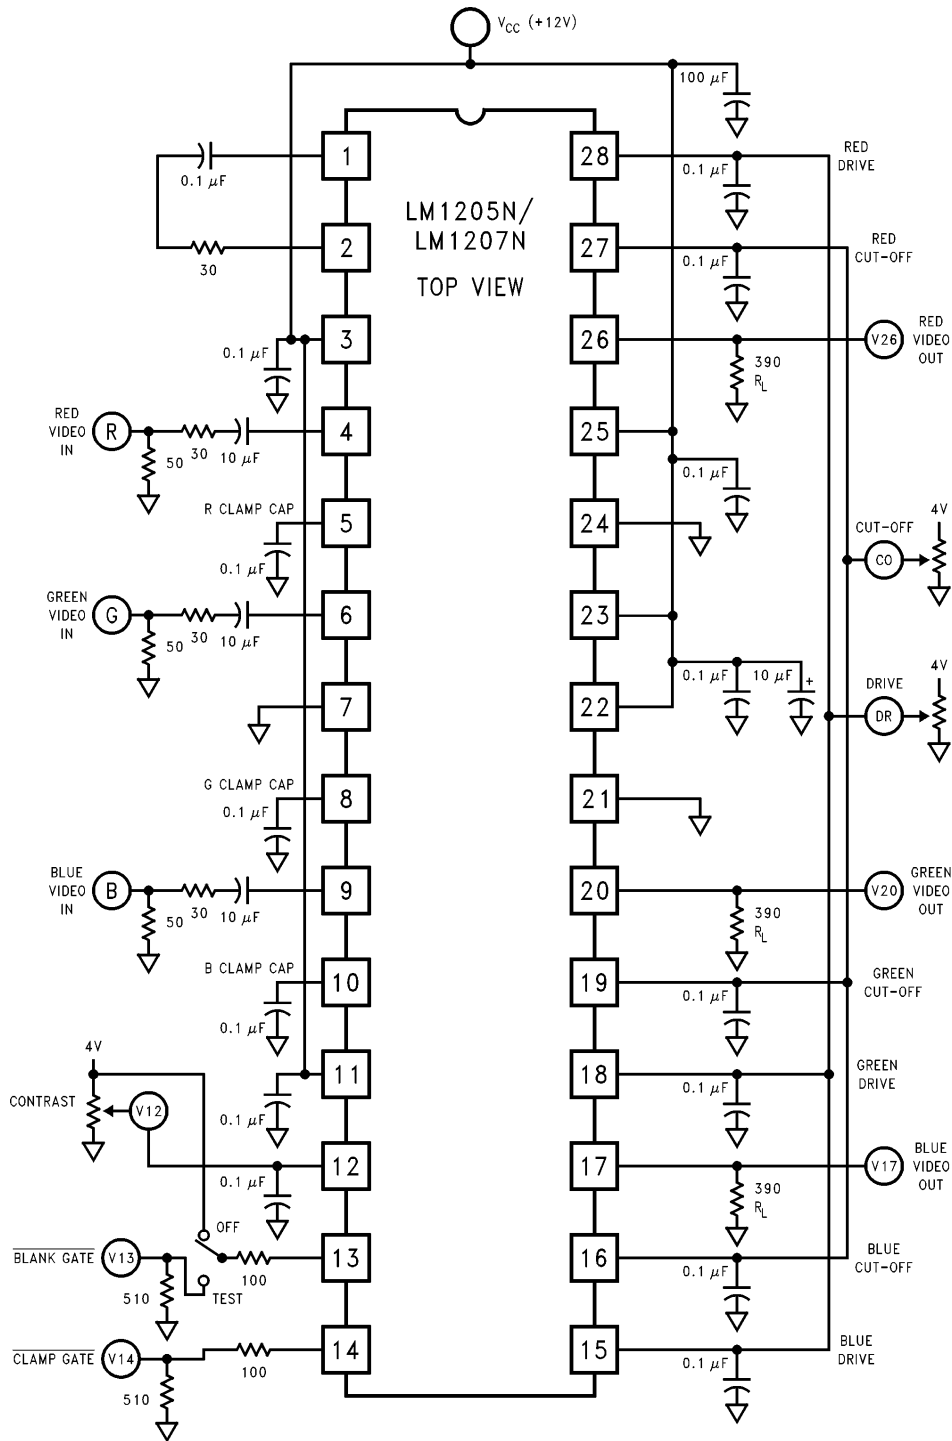

FIGURE 2. LM1205N/LM1207N DC Test Circuit
**DC Electrical Characteristics** See DC Test Circuit (Figure 2),  $T_A = 25^\circ\text{C}$ ;  $V_{CC1} = V_{CC2} = 12\text{V}$ .  $V_{12} = 4\text{V}$ ;  $V_{14} = 0\text{V}$ ;  $V_{\text{cut-off}} = 1.0\text{V}$ ;  $V_{13} = 4\text{V}$ ;  $V_{\text{drive}} = 4\text{V}$  unless otherwise stated.
**Note 7:** The supply current specified is the quiescent current for  $V_{CC1}$  and  $V_{CC2}$  with  $R_L = \infty$ , see Figure 2's test circuit. The supply current for  $V_{CC2}$  (pin 23) also depends on the output load. With video output at 1V DC, the additional current through  $V_{CC2}$  is 8 mA for Figure 2's test circuit.